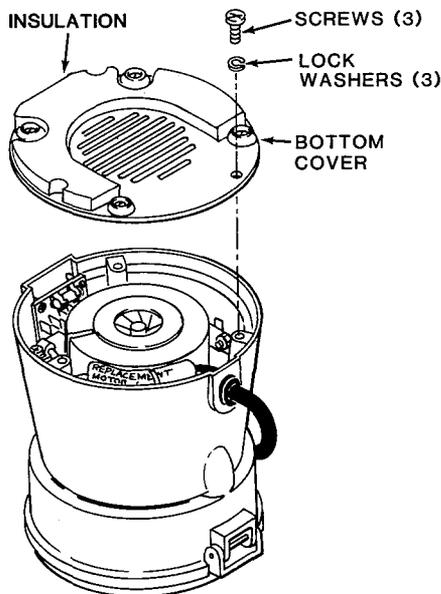

Figure 5-2. Removal of Bottom Cover
- c. Detach cover (Figure 5-2) by removing three attaching screws and lockwashers that secure cover to base of housing. Do not remove rubber feet from bottom cover.
- g. Detach bottom cover (Figure 5-2) by removing three attaching screws and lockwashers that secure cover to base of housing. Do not remove rubber feet from bottom cover.